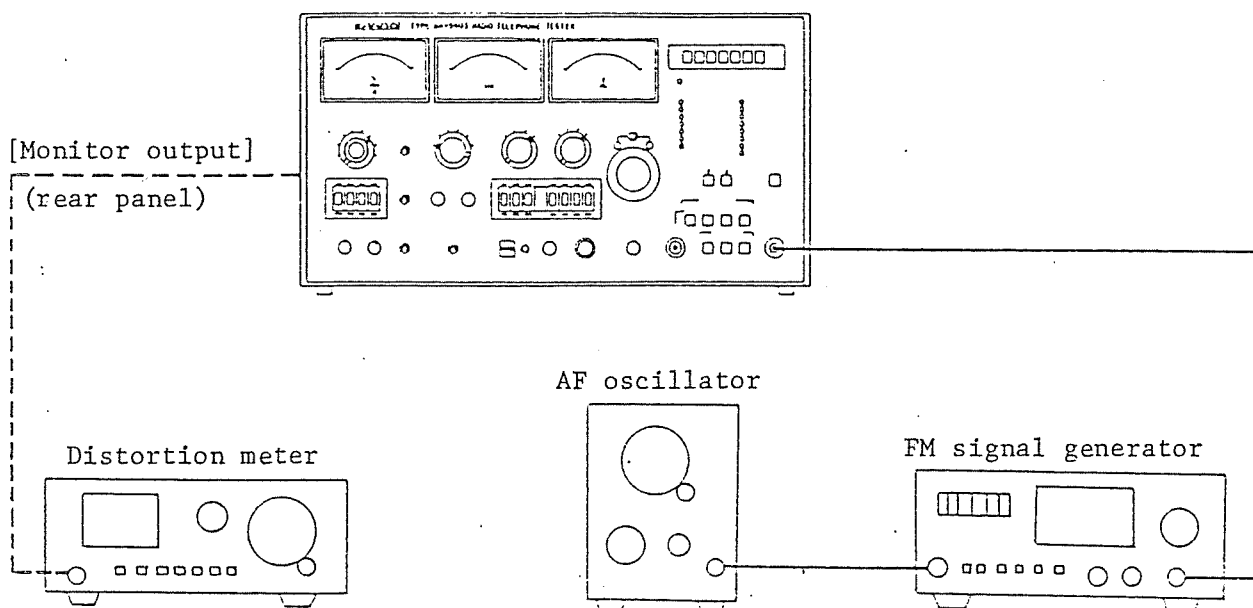

Fig. 3-12 Demodulation distortion test
- (1) Connect an FM signal generator to the [RF INPUT/OUTPUT 50  $\Omega$  MAX. 25 W] connector of this apparatus as shown in Fig. 3-12.